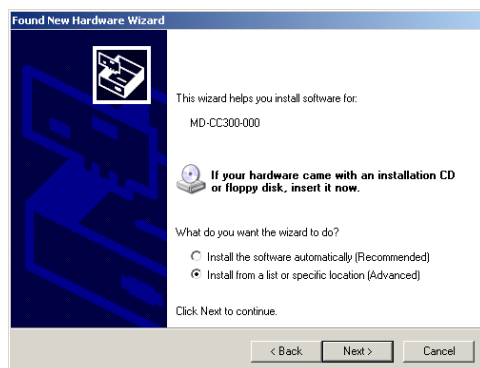

Figure A.5: Hardware Update Wizard Screen 2
- 5) Select “Install from a list or specific location (Advanced)” on the radio buttons in answer to the query “What do you want the wizard to do?” Click “Next” (Figure A.5).